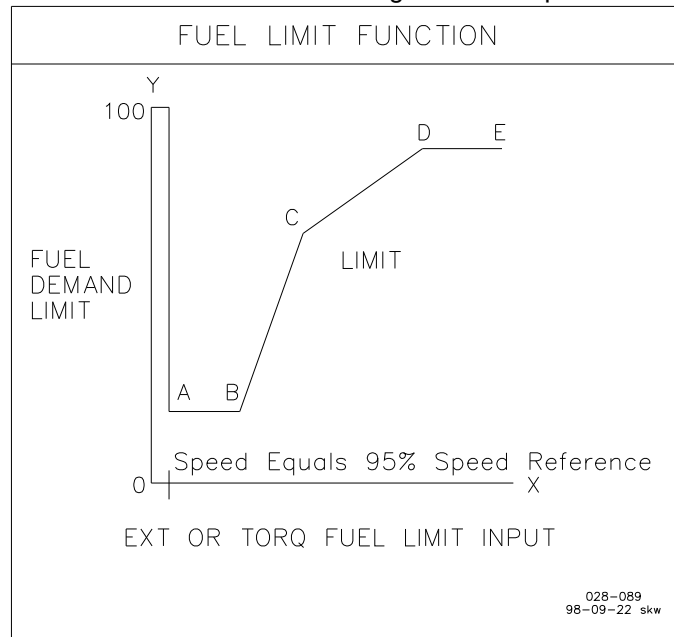

Figure 3-8. Torque Limit Curve
A five-point curve is constructed for rpm versus Fuel Demand (refer to Figure 3-8). The 'X' values are the Breakpoints, and the 'Y' values are the Fuel Limit at the Breakpoints. All values between the designated breakpoints are interpolated.
2. **TORQUE LMT BRKPT X** is the engine speed (rpm) that designates that particular breakpoint (x-axis input in Figure 3-8).
3. **FUEL LIMIT @ BRKPT X** is the percent fuel demand allowed when the engine speed is at that respective Breakpoint (y-axis output in Figure 3-8).
A five-point curve is constructed using the engine manufacturers recommended settings for EXT FUEL LMT versus Fuel Demand. Refer to Figure 3-8. The 'X' values are the Breakpoints and the 'Y' values are the Fuel Limit at the Breakpoints. All values between the designated breakpoints are interpolated.
2. **EXT LIMIT BRKPNT X** is the External Fuel Limiter value that designates that particular breakpoint (x-axis input in Figure 3-8).
3. **FUEL LIMIT @ BRKPNT X** is the percent fuel demand allowed when the External Fuel Limiter input is at that respective Breakpoint (y-axis output in Figure 3-8).